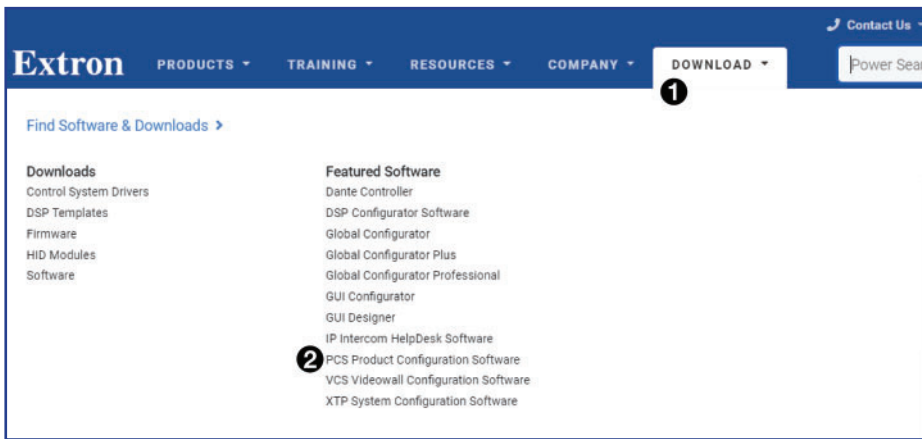

Figure 6. PCS Software Link on Download Tab
1. Mouse over the **Download** tab at the top of the homepage (see figure 6, ❶ below).
3. Click **Download** (see figure 6, ❶) and follow the on-screen instructions to install the software.